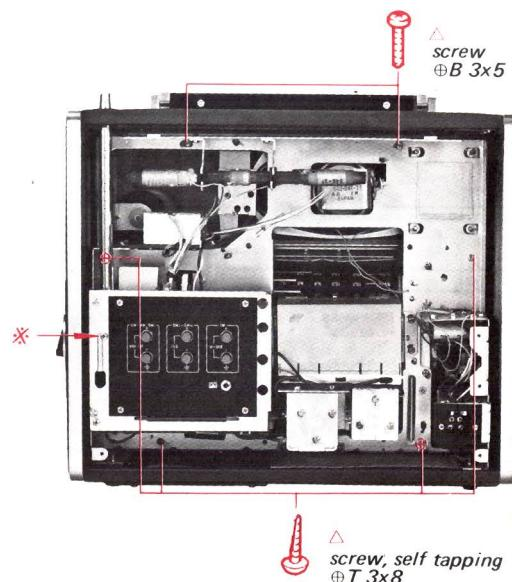

Fig. 2-3
- Remove the six screws marked  $\triangle$  which fasten the front panel to the chassis in Fig. 2-3.